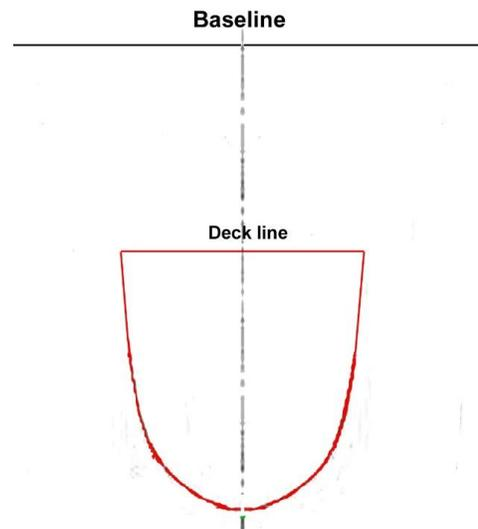

Figure 9. The internal outline of the hull at rib 16.
7. The outline that we need to work with is thus shown in Figure 9.